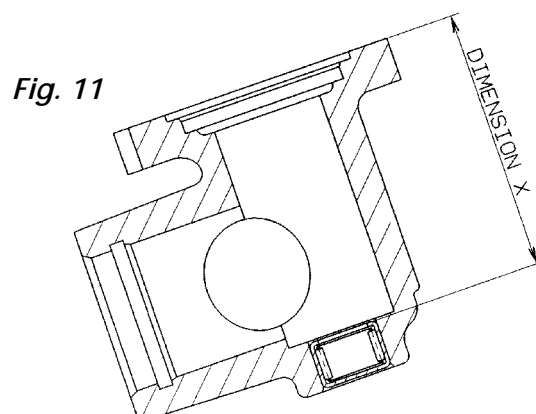

Fig. 11
If any wear is found on the journal of the rotary valve (81), measure the pressing-in depth (dimension X) of the needle bush (2) and put it down in writing (**Fig. 11**).